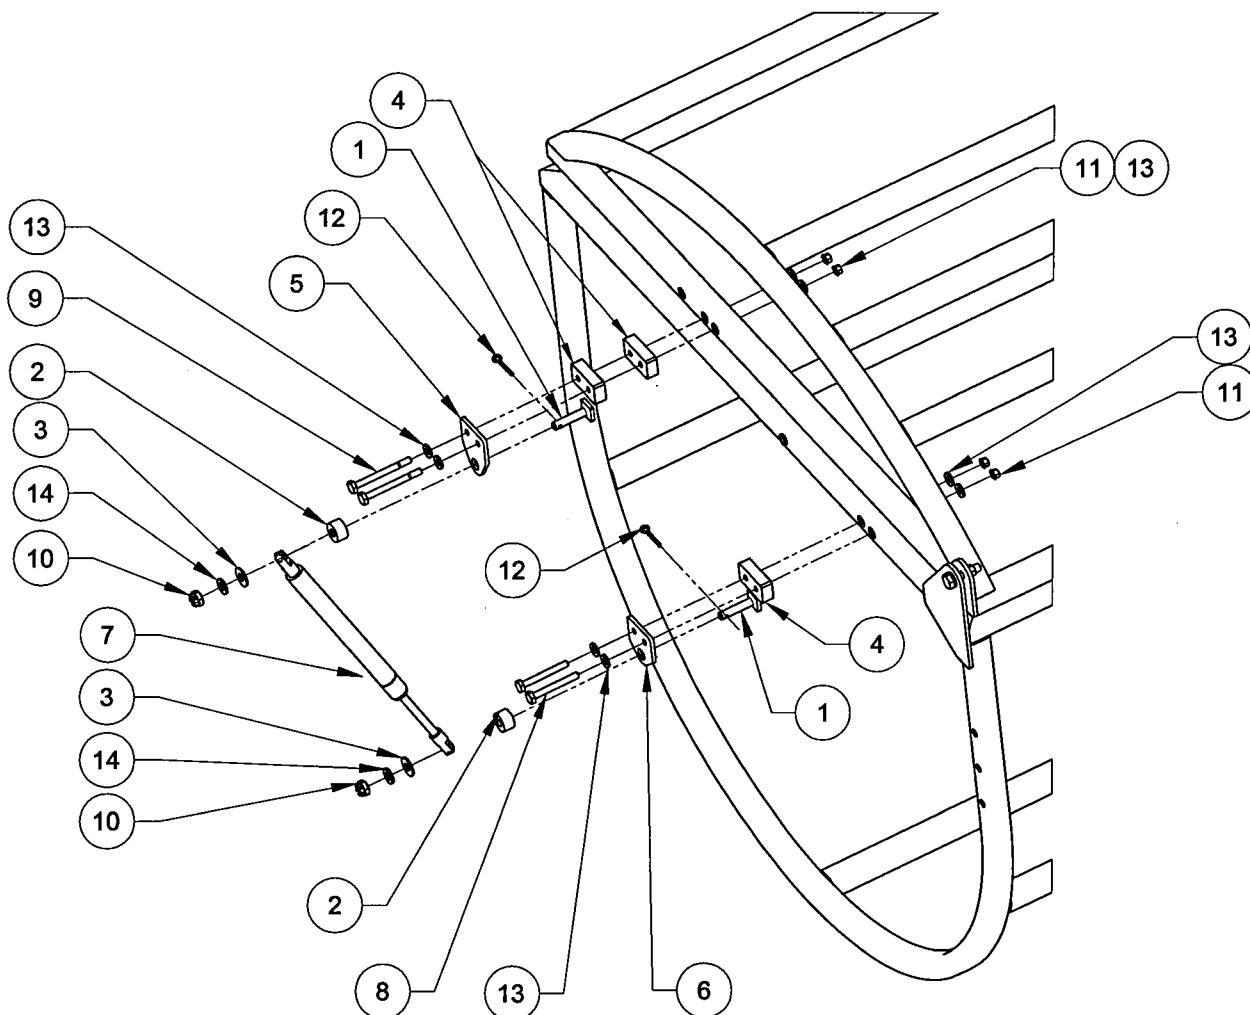

FIGURE 3: D205-541-051 GAS SPRING KIT INSTALLATION
- 3.4 Install QTY 2 D3953-17 Gas Spring Spacer and D3953-19 Gas Spring Bracket to the basket lid using 2X AN3-20A bolts, NAS1149F0332P Washers and MS21042L3 Nuts as shown in Figure 3.
- 3.6 Install the D3953-17 Gas Spring Spacer and D3953-21 Gas Spring Bracket to the basket base using 2X AN3-14A bolts, NAS1149F0332P Washers and MS21042L3 Nuts, as shown in Figure 3.